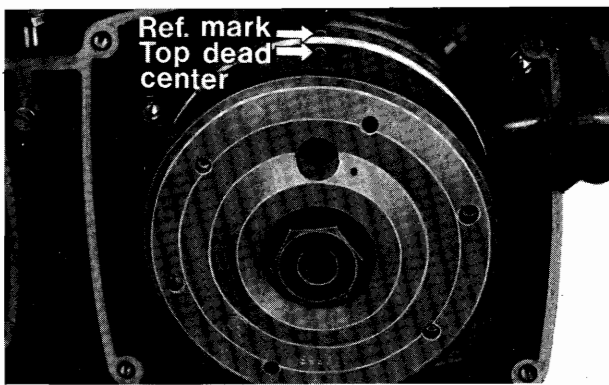

Fig. 38.1
2. Put a mark on the flywheel and a reference mark on the crankcase. See fig. 38.1.